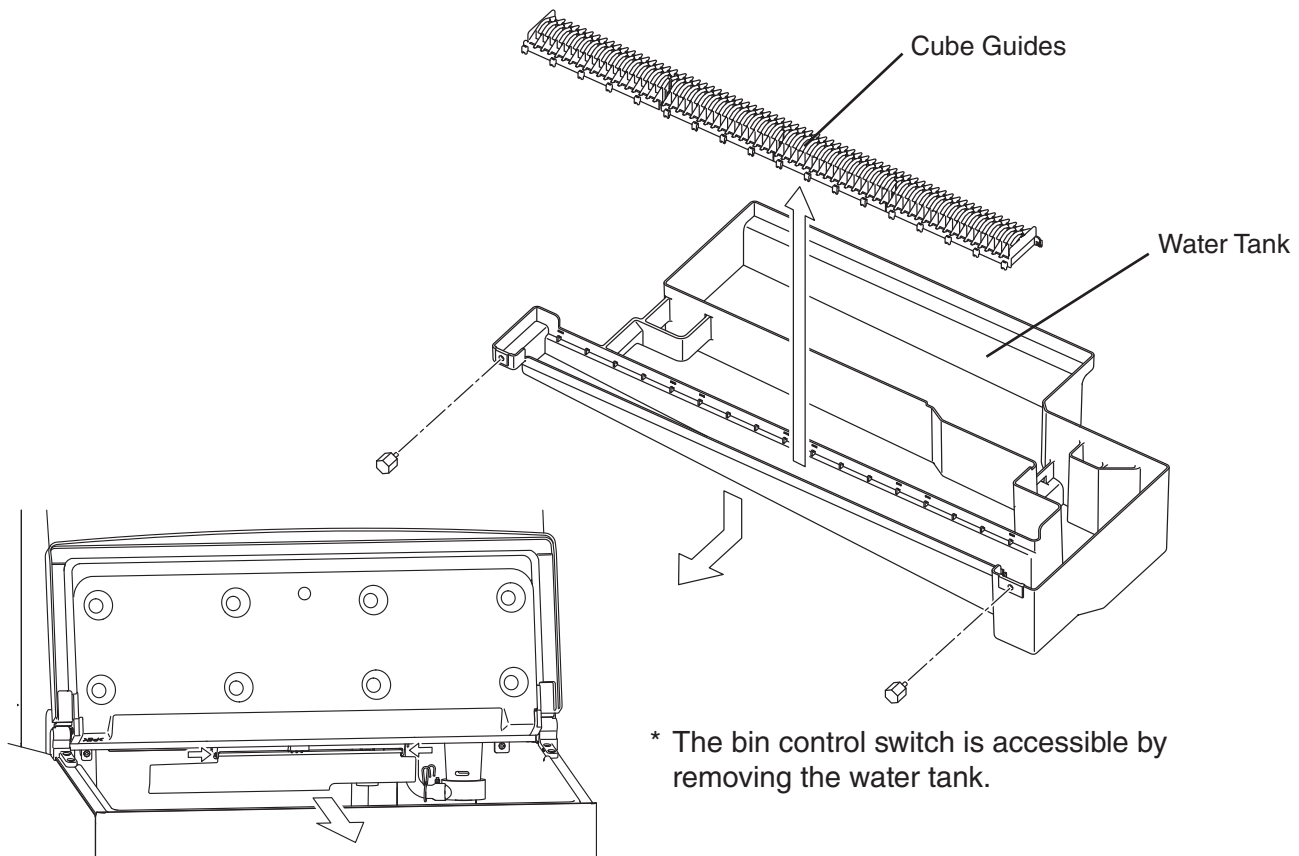

Fig. 9
- 17) Pull the cube guides (quantity varies depending on model) upward to remove them from the water tank. They are snapped in place. See Fig. 9.